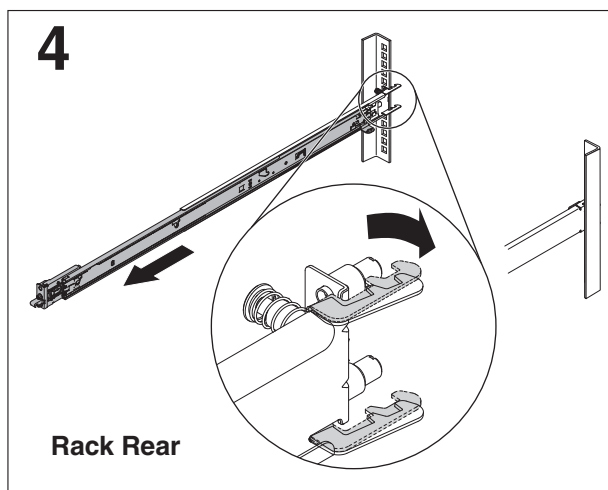

Figure 55. Removing the rear end of the slide rails
3. Disengage the slide rails from the rear of the rack, as shown in Figure 55.